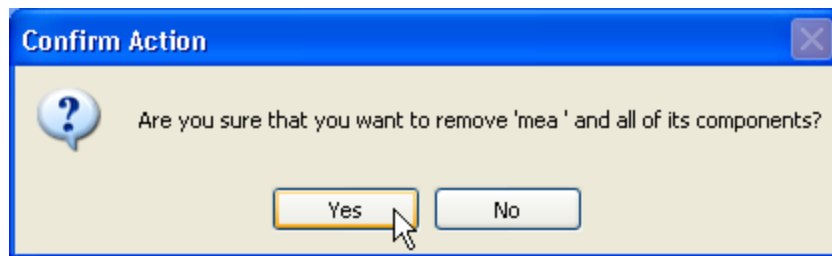

Figure 44. Confirm Action - Uninstall
2. The *Confirm Action* dialog box will display the query “Are you sure you want to remove ‘mea’ and all of its components?” as shown in Figure 44. Click on **Yes** to continue.
Clicking on the MeshTray icon in the system tray restores the application to a property sheet interface as shown in Figure 44.